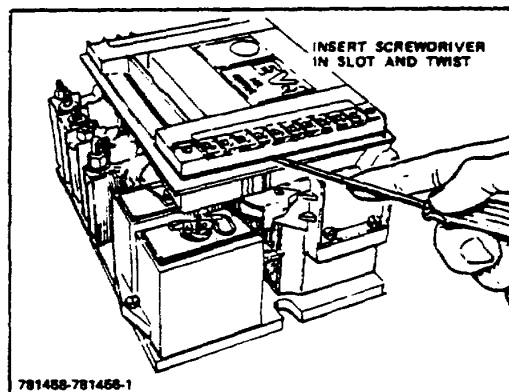

Figure 8-2. Terminal Board Removal
- (1) Loosen the four captive terminal board screws.
- (2) Insert a screwdriver into the slot at the sides of the terminal board and twist the screwdriver to pry out the terminal board. Leave the wires intact. Remove both terminal boards (Fig 8-2).